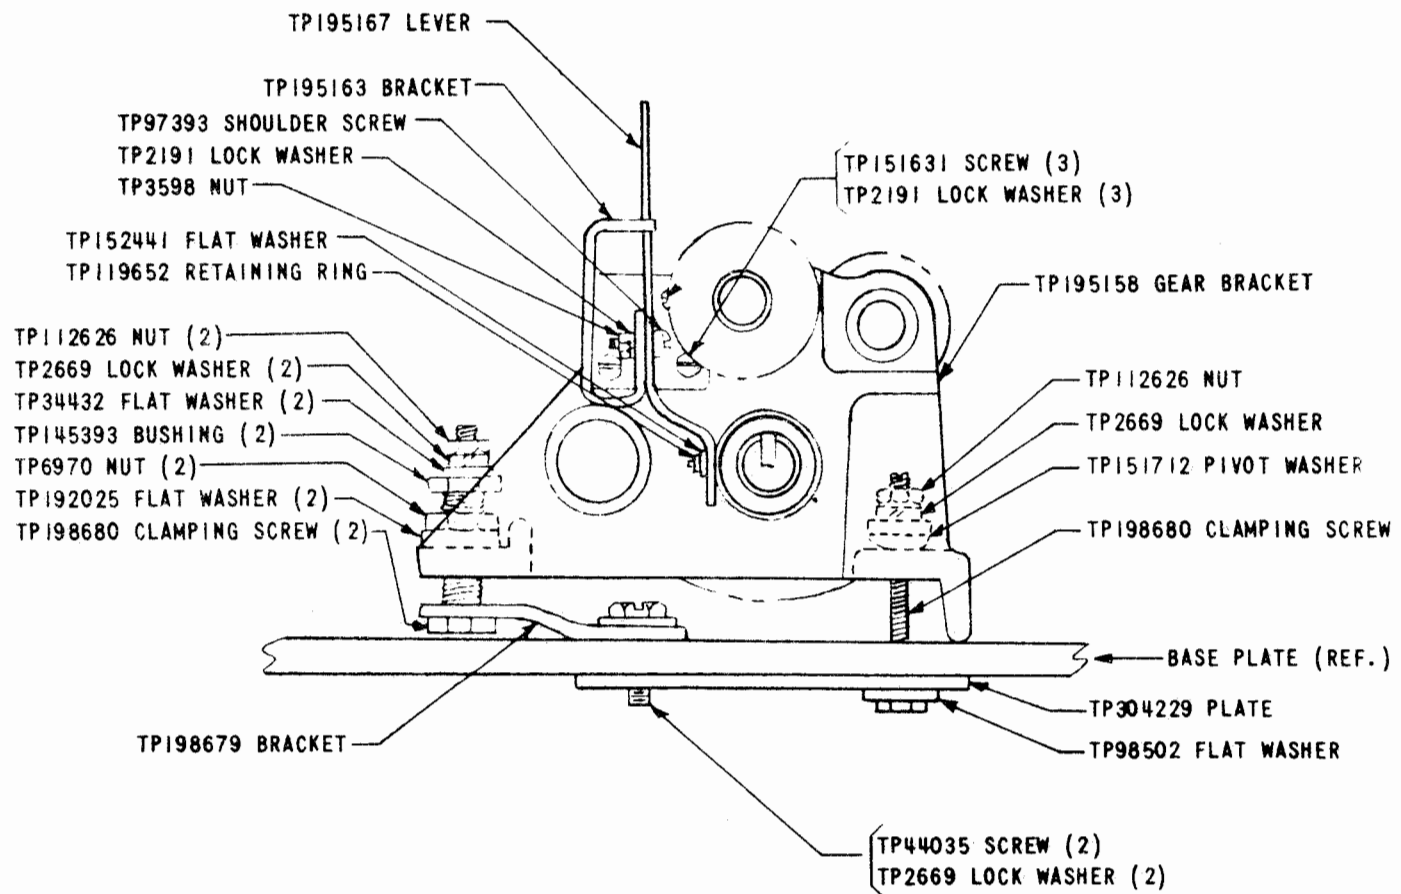

FIGURE 2 (50204S)
a. Remove Printer (LP) and Motor Unit (LMU) and remove the keyboard or base from cabinet.
(1) Intermediate gear assembly and associated mounting facilities. Save one of the two 151712 pivot buttons.
(2) Connector and motor terminal block mounting bracket. Retain the connector, terminal block, and all associated mounting hardware.
(3) If this modification kit is to be installed on a Model 28 Keyboard or Base, discard the two 121414 posts.
c. Insert two 198680 clamping screws through the 198679 bracket. (Refer to Figure 2). Secure bracket to base (raised extension toward rear) using the furnished 44035 screws, 2669 lockwashers and 304229 plate. (Remove the oil drip pan on the upper or middle shelves of an LBAC Apparatus Cabinet). Use the slots in the base at the rear of the keyboard vacated by the intermediate gear assembly. Position bracket at forward edge of slots (toward printer) and tighten the 44035 screws.
h. Assemble the 195167 lever to the 195163 bracket. (See Figure 2.) Assemble the 195163 bracket to the gear shift casting. Fasten the lower end of the 195167 lever to the 145386 collar.